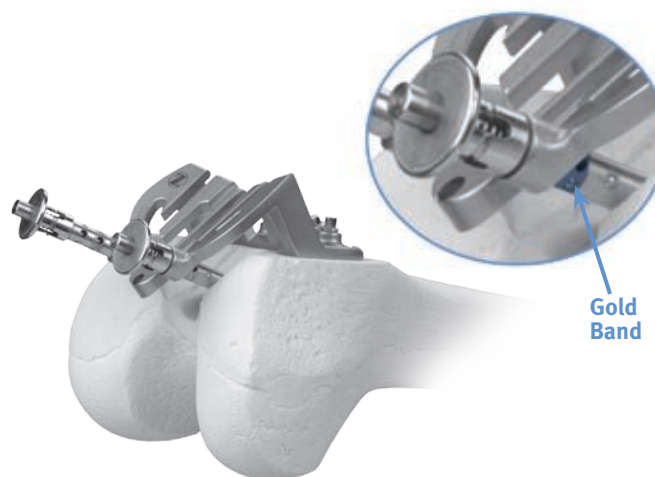

Fig. 39
- Depress the button and push the lateral foot into its down or "Stabilize" position (gold band visible below the guide) (Fig. 39).